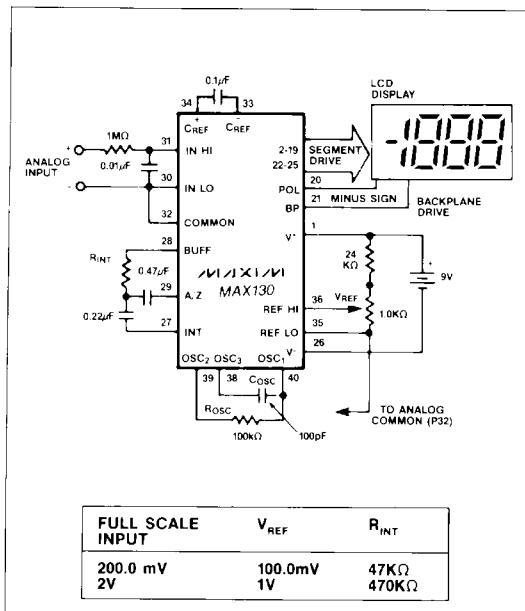
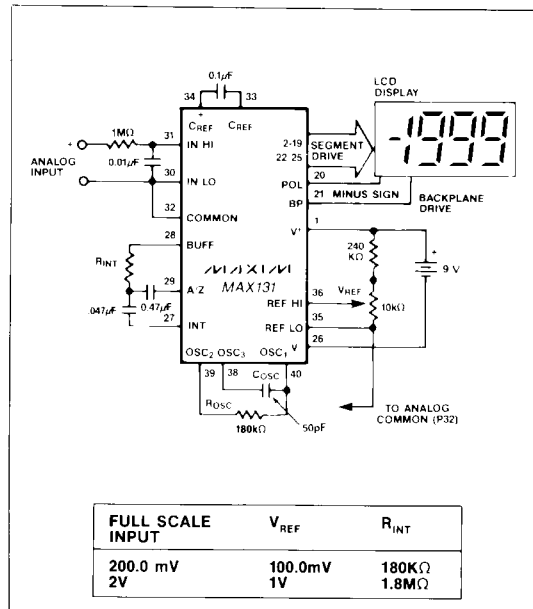

Figure 1. Maxim MAX130 Typical Operating Circuit, 3 Conversions per Second
Figure 2. Maxim MAX131 Typical Operating Circuit, 3 Conversions per Second
( $V^+ = 9\text{V}$ ,  $T_A = 25^\circ\text{C}$ ,  $f_{\text{CLOCK}} = 48\text{kHz}$ ; test circuit - Figure 1; unless noted)
(V+ = 9V, TA = 25°C, fCLOCK = 48kHz; test circuit - Figure 2; unless noted)
**Note 3:** Test condition is VIN applied between pin IN-HI and IN-LO through a 1MΩ series resistor as shown in Figures 1 and 2.
**Note 4:** 1MΩ resistor is removed in Figures 1 and 2.
Figures 1 and 2 show the basic MAX130 and MAX131 applications circuits. Note that the circuits for the MAX130 and the MAX131 use different values for the integration and oscillator components. The MAX130 can operate using the MAX131 component values, but the MAX131 will not operate using the MAX130 component values. The lower supply current device, the MAX131, must always use the higher value integrator resistor as shown in component value table in Figure 2. With a typical operating current of only 65µA, the MAX131 will operate for about 8500 hours when powered by a typical 550mAh alkaline 9V battery. The MAX130 will operate for 2200 hours with a 550mAh battery.